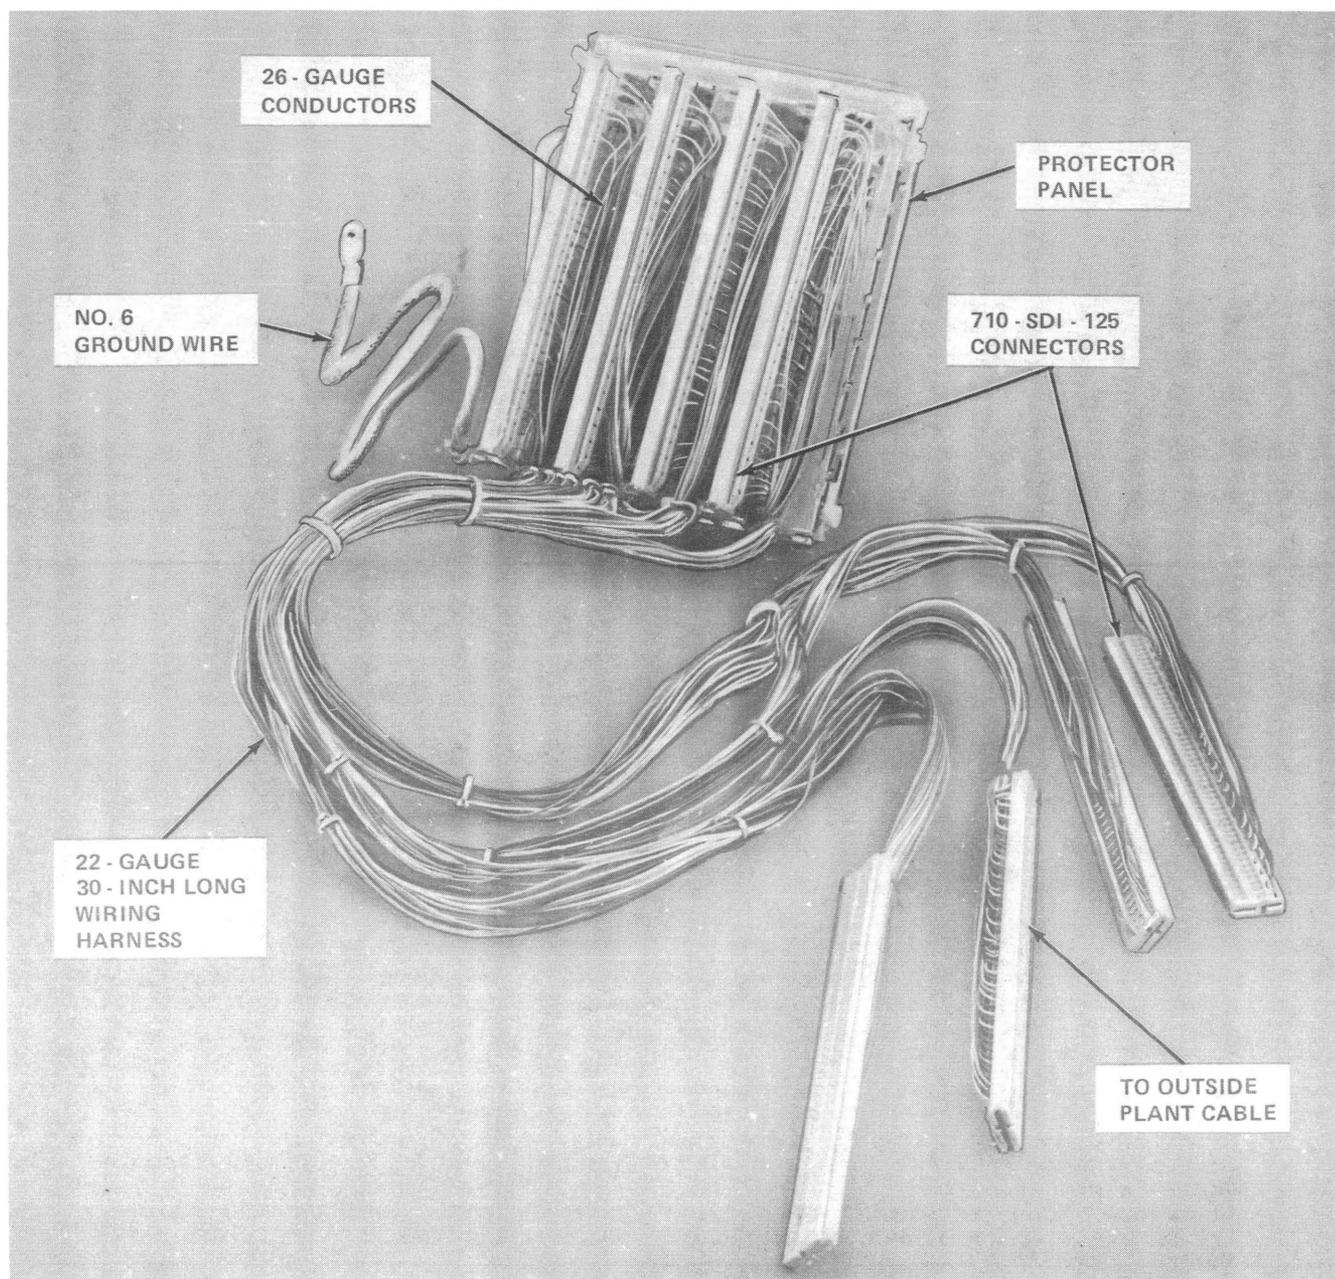

Fig. 8—307C2-100 Connector
2.05 The 307C2-100 connector (Fig. 8) is for use in the AT-9049 type protector and cable enclosures used in SLC 96 carrier remote terminal applications. It is similar to the 307C1-100 connector except for the gauge size of the conductors. As with the 307C1-100 connector, the 307C2-100 connector is ar-